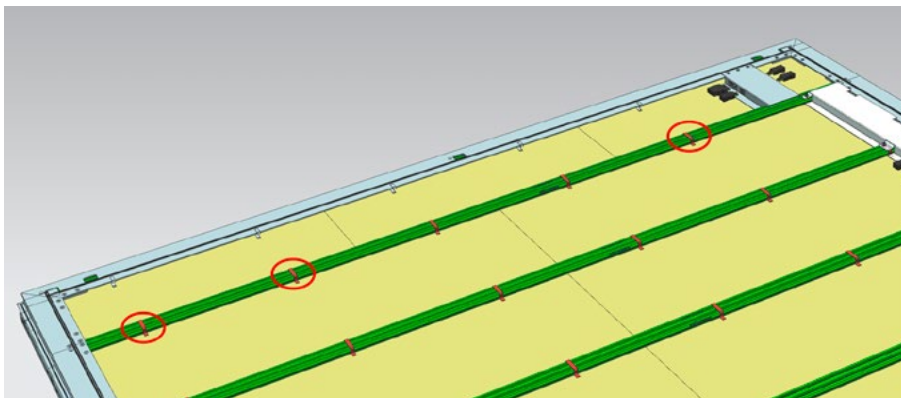

Figure 9: Place the outer double crossbar clips.
- Place the outer (indicated) double crossbar clips at the original positions of the single crossbar clips (the center clips will be placed in step 3.11), Figure 9.